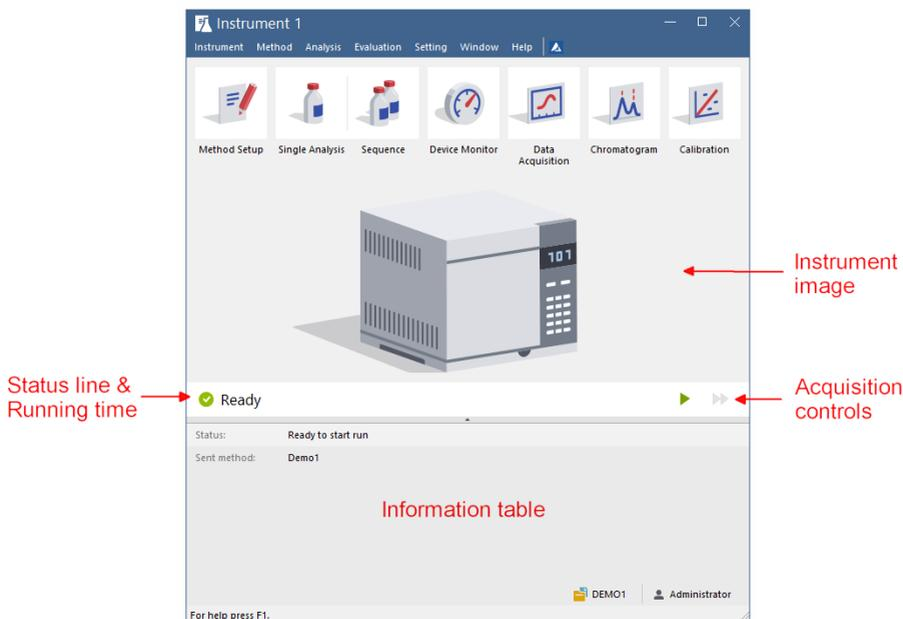

Fig 3: Instrument window
- The **Instrument** window will open; **Fig 3** on pg **10**. shows the most important icons in this window. During the tour, we will present all windows related to these icons.
- Run the analysis by clicking the *Run* button (7). The **Single Analysis** dialog will close now, but if you open it again, you will see three more buttons (*Stop*, *Abort*, *Snapshot*) accessible, allowing you to stop or abort the analysis or take snapshots (see the chapter "**Data Acquisition window**" on pg 14.).
- In the **Instrument** window, look at the *Status line* (see **Fig 3** on pg 10.). The acquisition is now signaled by the *RUNNING* state and the actual run time is displayed there.
- To see the data acquisition in process and possibly control it, use the **Data Acquisition**  icon (see **Fig 3** on pg 10.) to enter the **Data Acquisition** window.
- In the **Data Acquisition** window two signals can be seen. This is because the analysis is set as two-detector ① analysis.